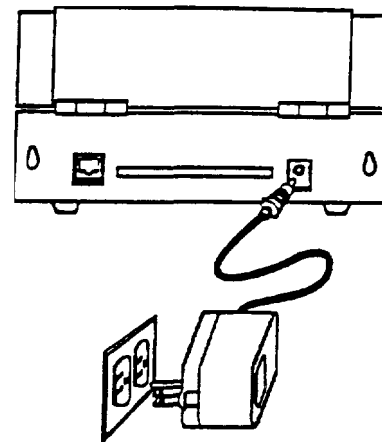

Figure 12. AC Connections
47. **BATTERY.** Operating the LS2000 with the AC adapter/charger connected to the unit, simultaneously charges the rechargeable battery pack. Whether the power switch is ON or OFF, the battery pack will continue to charged by the adapter/charger (Figure 12)
- a. Insert the adapter/charger's barrel plug connector into the port located at rear of printer (Figure 12)